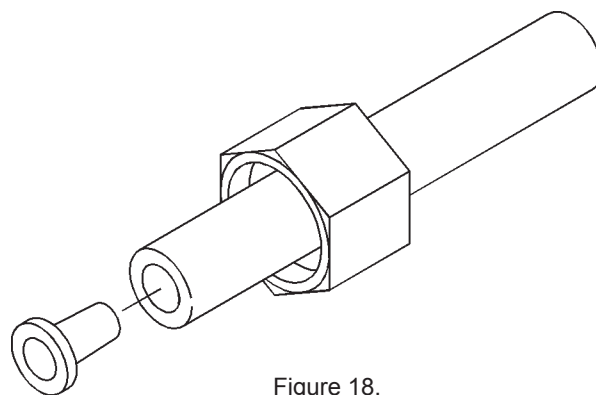

Figure 18.
2. Slip the white nut over one end of the tubing and press the plastic insert into the end of the tubing (Figure 18). Connect to the brine valve and tighten nut.